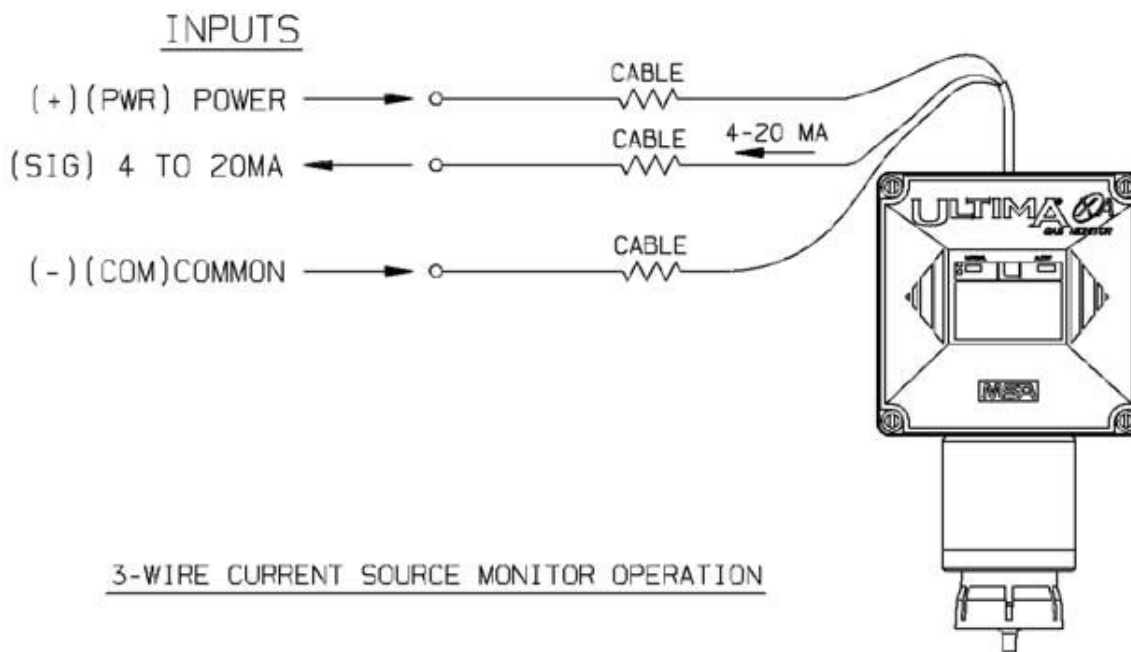
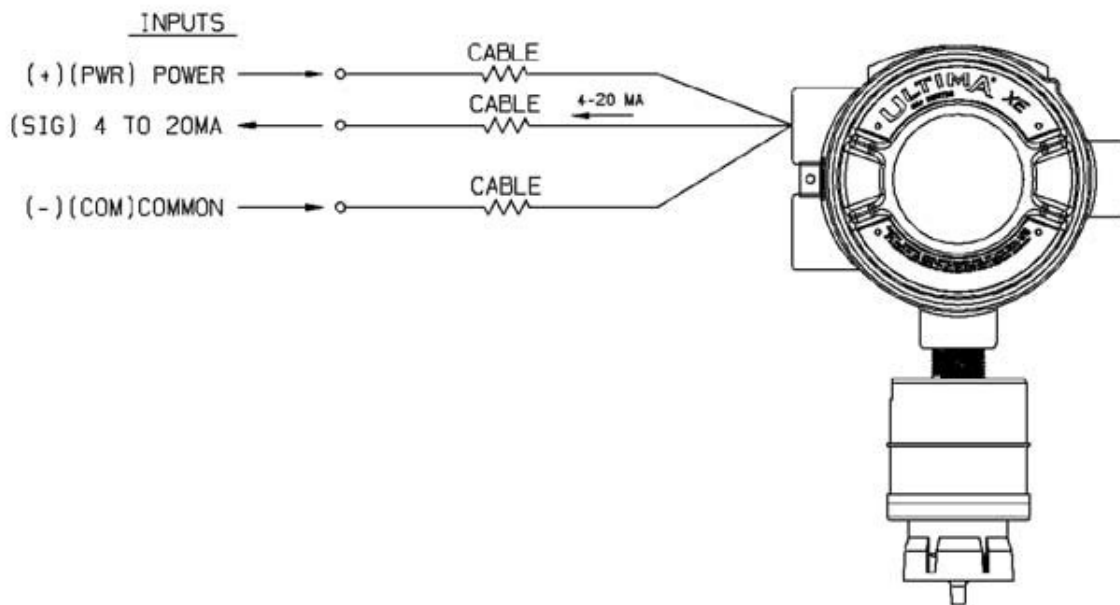

Fig. 12 General-Purpose Three-Wire Operation
Fig. 13 Explosion-Proof Three-Wire Operation
- Three-wire Ultima X Series Monitors operate in the current source mode (see Fig. 12 for general-purpose) (Fig. 13 for explosion-proof).